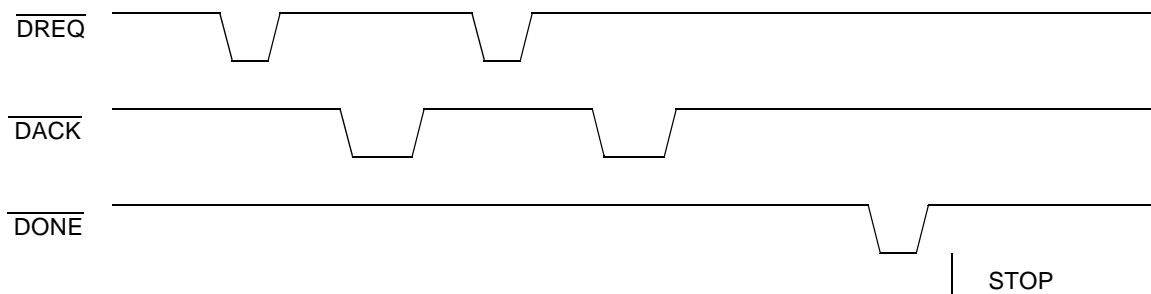
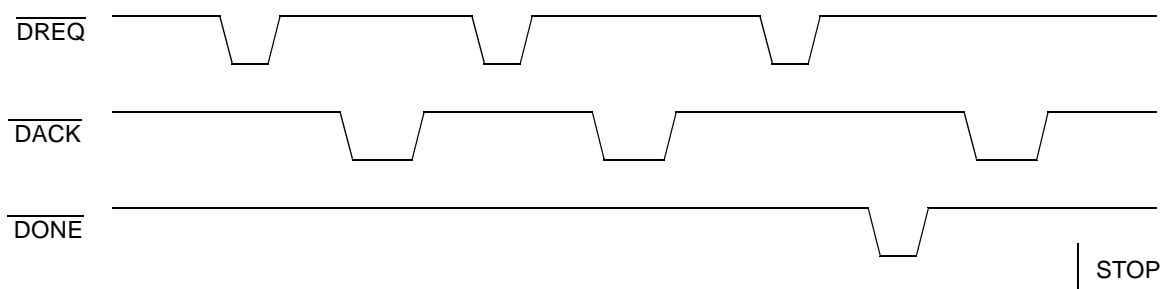

Figure 18. Fly-by Mode Extermination by \overline{DONE} Without Pending \overline{DREQ}
Figure 19. Fly-by Mode Extermination by \overline{DONE} with Pending \overline{DREQ}
- Figure 18 and Figure 19 illustrate two scenarios for fly-by mode. When \overline{DONE} is asserted and the IDMA has not yet asserted \overline{DREQ} , the IDMA executes the pending \overline{DREQ} . That is, it does one more transfer and stops. If there is no pending \overline{DREQ} , the IDMA stops right after \overline{DONE} assertion.
Figure 18 shows a fly-by mode transfer termination by an external \overline{DONE} without a pending \overline{DREQ} . When \overline{DONE} is asserted and all previous \overline{DREQ} signals are serviced so that there is no pending \overline{DREQ} , the BD is closed and IDMA stops right after \overline{DONE} . All the signals are not scaled. \overline{DONE} requires one cycle.
Figure 19 shows a fly-by mode transfer termination by an external \overline{DONE} with a pending \overline{DREQ} . When \overline{DONE} is asserted, there is one unserviced \overline{DREQ} . The BD is closed and the IDMA stops after the pending \overline{DREQ} is serviced. All the signals are not scaled. \overline{DONE} requires one cycle.